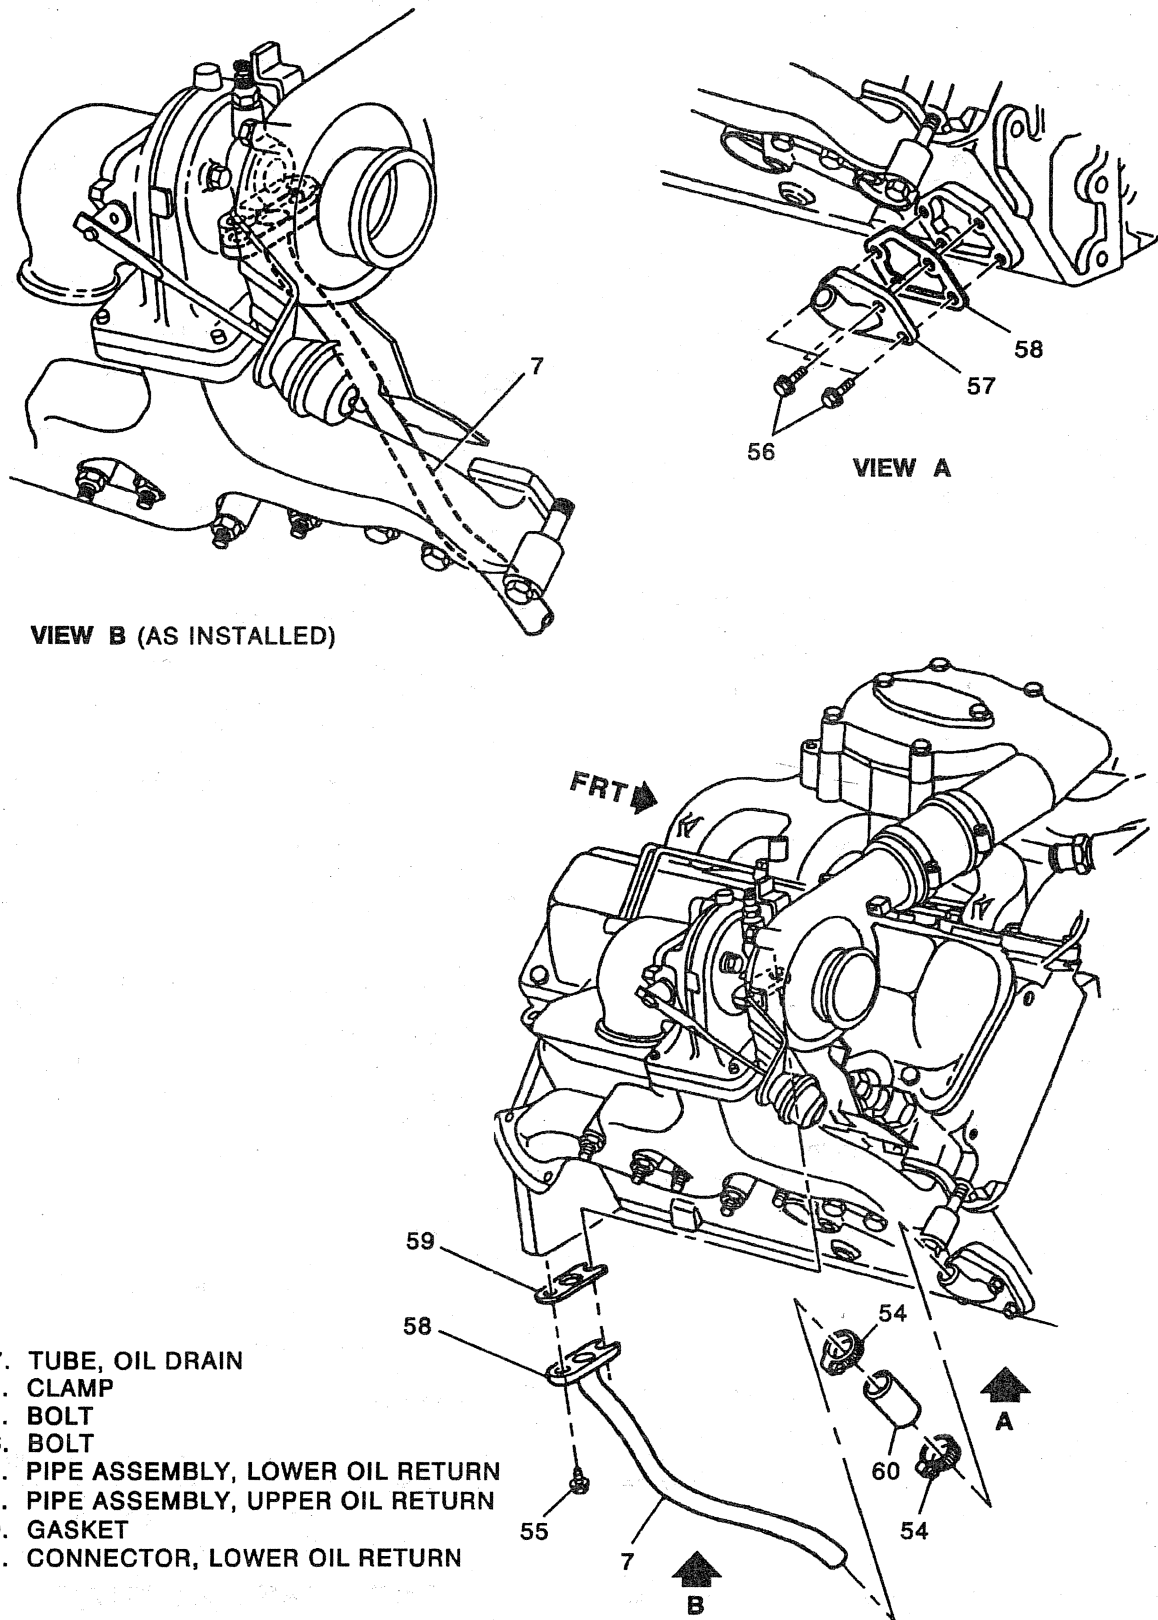

Figure 11—Oil Drain (Return) Tube
12. Oil return pipe (figure 11).
3. Gasket on oil return pipe. Then the oil return pipe to the bottom of the turbocharger (figure 11).